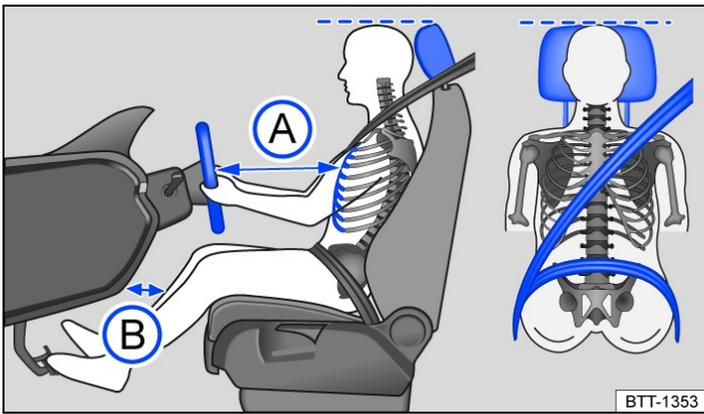

Fig. 1 Illustration: correct distance between the driver and the steering wheel, correct seat belt routing and correct head restraint adjustment.
- Adjust the head restraint so that its upper edge is at the same height as the top of the head, but not lower than eye level. Position the back of your head as close to the head restraint as possible at all times → Fig. 1.